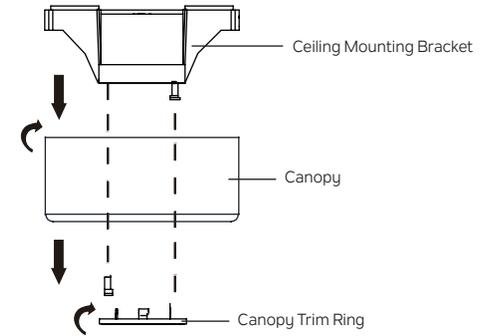

Fig. 5
Step 1. Remove the canopy trim ring from the canopy by turning the canopy trim ring counter clockwise. (Fig. 5)
Step 2. Remove the ceiling mounting bracket from the canopy by removing and saving one of the two screws. Loosen the remaining screw by a half turn. (Fig. 5)
Step 3. Align the remaining circular hole in the canopy with the remaining hole in the ceiling mounting bracket. Reinstall the screw you removed earlier **(HANGING THE FAN, Step 2/Fig. 5)** into the aligned holes. Tighten both screws to secure. Attach the canopy trim ring to the screw heads by inserting the screw heads into the canopy trim ring and rotating the canopy trim ring (clockwise).